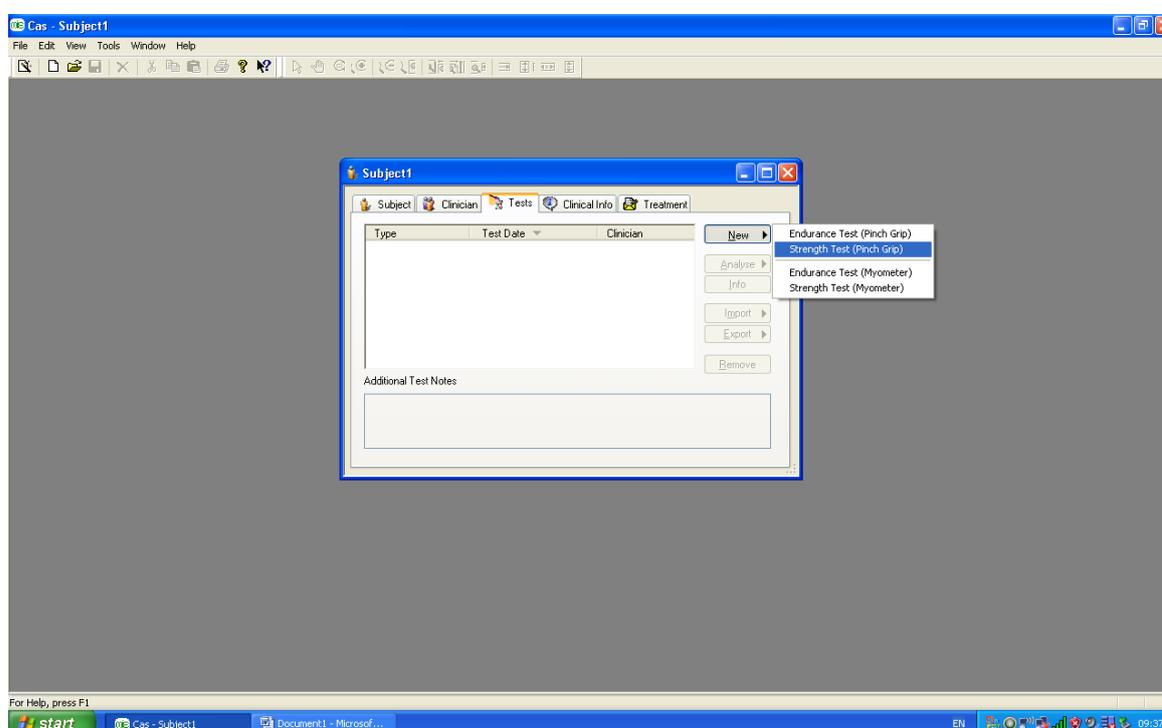

Figure 10.
2. Under the “tests” tab, select “new test” and then “Strength Test (Pinch Grip)” (figure 10).